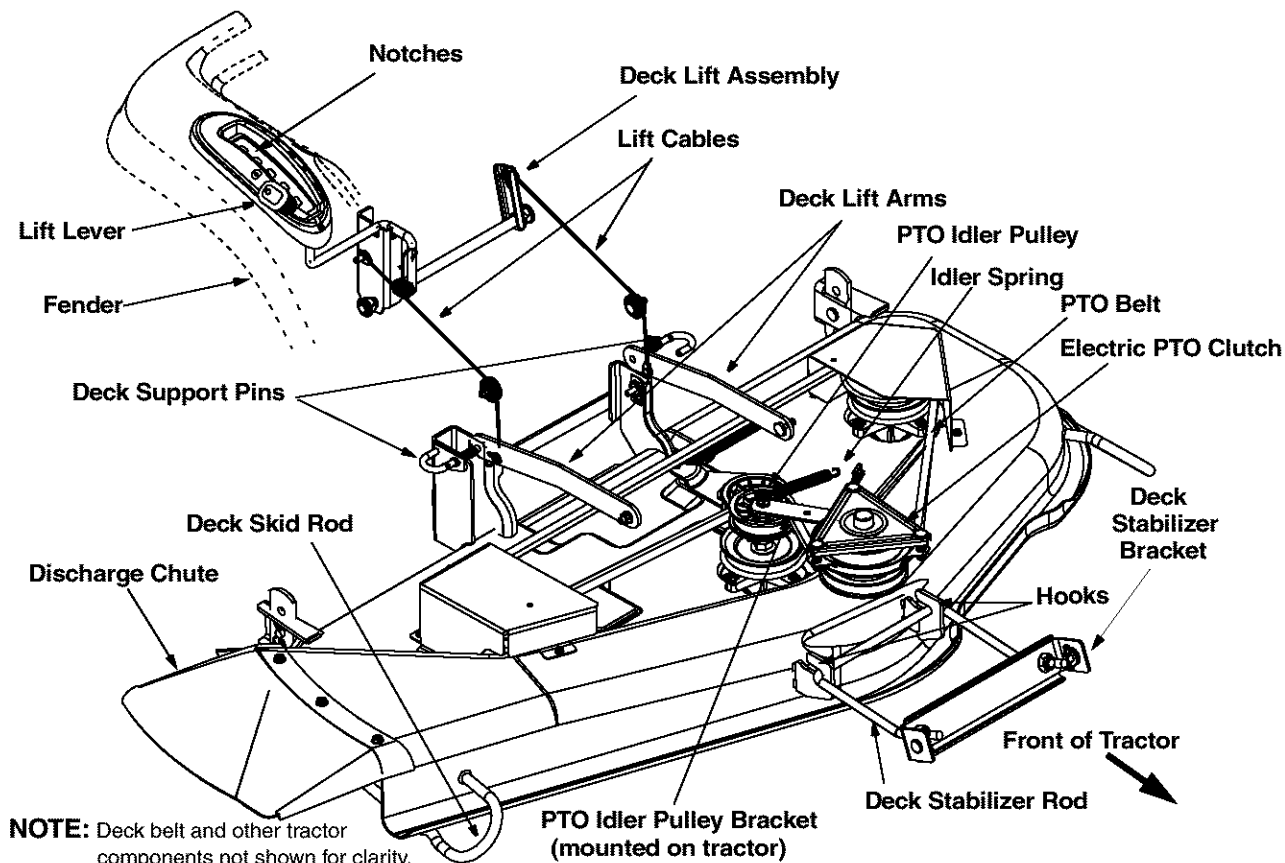

Figure 3
- Move the cutting deck into position so that the the hooks found on the front end of the deck fit snugly around the deck stabilizer rod as shown in Figure 3.
- Raise the left side of the cutting deck by grasping the deck skid rod and lifting upward. Pull the deck support pin (on the left side of the deck) outward and align it with the hole on the rear of the left deck lift arm before releasing the pin to lock it in place as shown in Figure 3. Repeat on the right side.
- Route the PTO belt around the electric PTO clutch as shown in Figure 3.
- Grasp the PTO idler pulley bracket and pull it towards the discharge chute, then route the belt around the PTO idler pulley as shown in Figure 3.